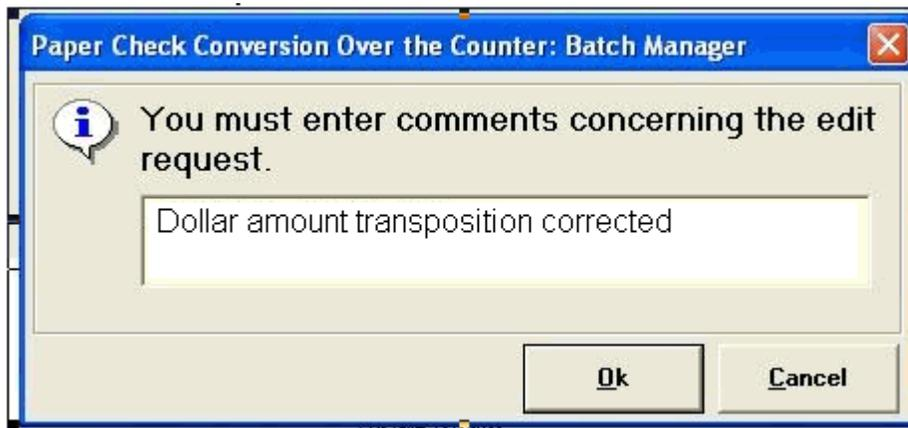

Figure 4.19
6. Enter comments regarding the reason for editing the item (Figure 4.19) and click **'Ok'**, Users can also print a receipt prior to clicking the **'Close'** button by clicking on the **'Print Receipt'** button. When finished, click **'Close'**.